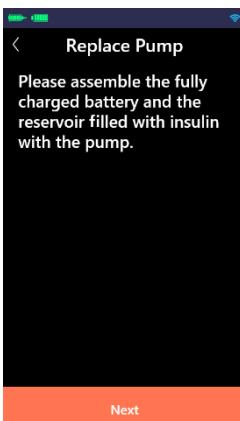

Figure 11.3
**(3)** Please assemble the fully charged battery and the reservoir filled with insulin with the pump (as shown in Figure 11.3). After the assembly is completed, please click "Next".